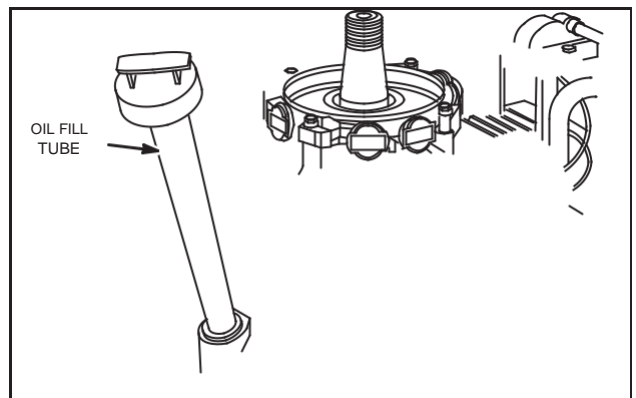

Fig. 9 - Route Wires
4. Assemble oil fill tube to cylinder and crankcase cover, Fig. 9.